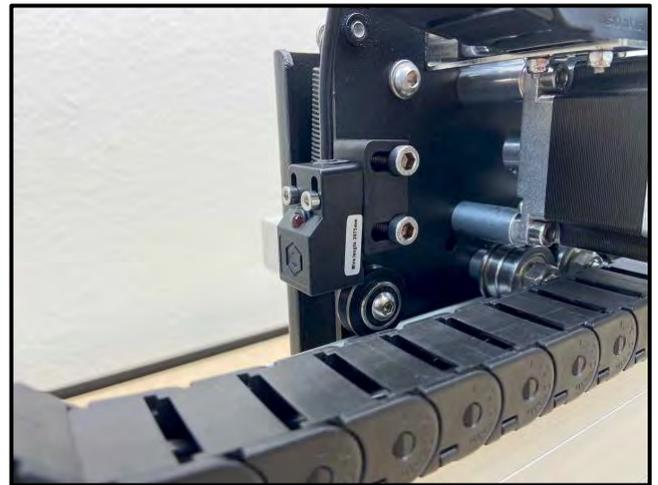

Figure 17
1. Attach the X-Axis proximity switch to the mount installed on the rear of the X/Z-carriage. See *Fig. 17*.
- d. Use a 2.5mm hex key and two (2) M3×18mm SHCS to secure the proximity switch.